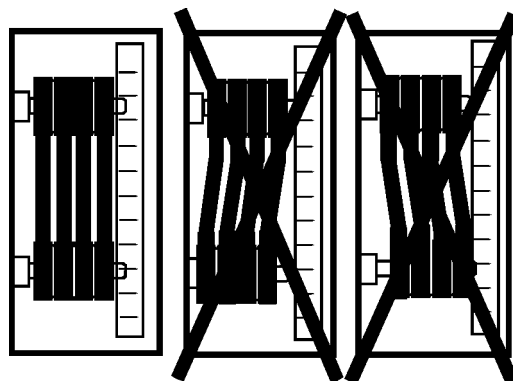

Figure 13. V-Belt Parallelism
2. Check uniform parallelism (Figure 13) of V-belts and pulley (sheaves). Use a straight edge or machinists's square against both pulleys and adjust both pulleys until equally aligned.